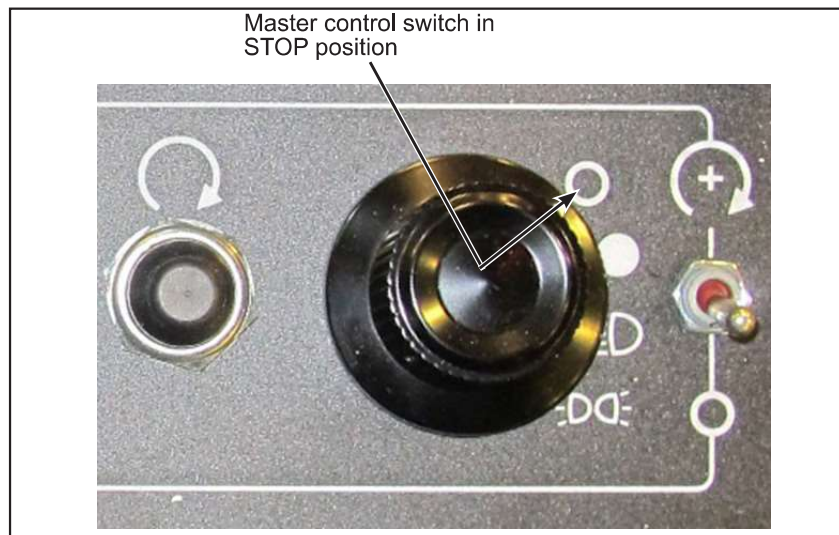

Figure 1 - Master Control Switch in STOP Position
- 1.3. Set the master control switch to the STOP position (see figure 1).